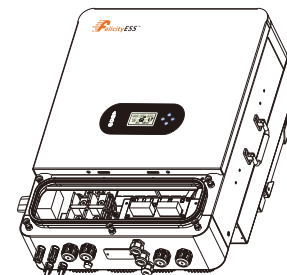

Figure 4.6-1 DRMS interface
**Step 1:** Screw this cover off from the inverter. See Figure 4.6-1.